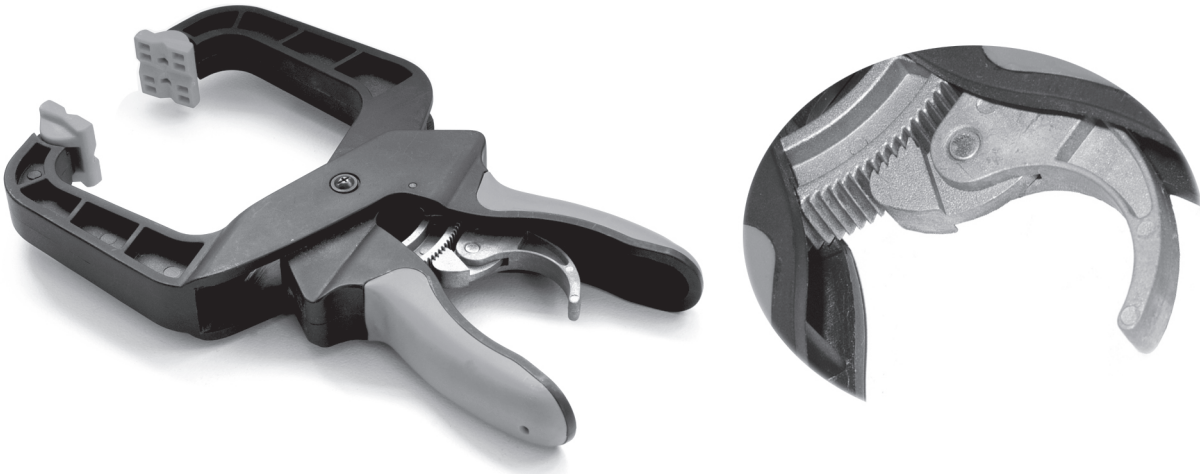

Fig. 16
- (d) Fig. 16 shows two views of a clamping device that uses a ratchet and pawl to keep its jaws closed. A release trigger will allow the clamp to open.